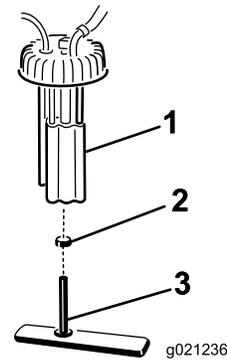

Figure 49
2. Unplug the wiring-harness connectors from the fuel pump (Figure 49).
3. Remove the fuel pump assembly and the fuel filter from the tank (Figure 49).
4. Remove the clamp that secures the fuel-filter hose to the fuel-pump fitting. Remove the hose from the fitting (Figure 49).